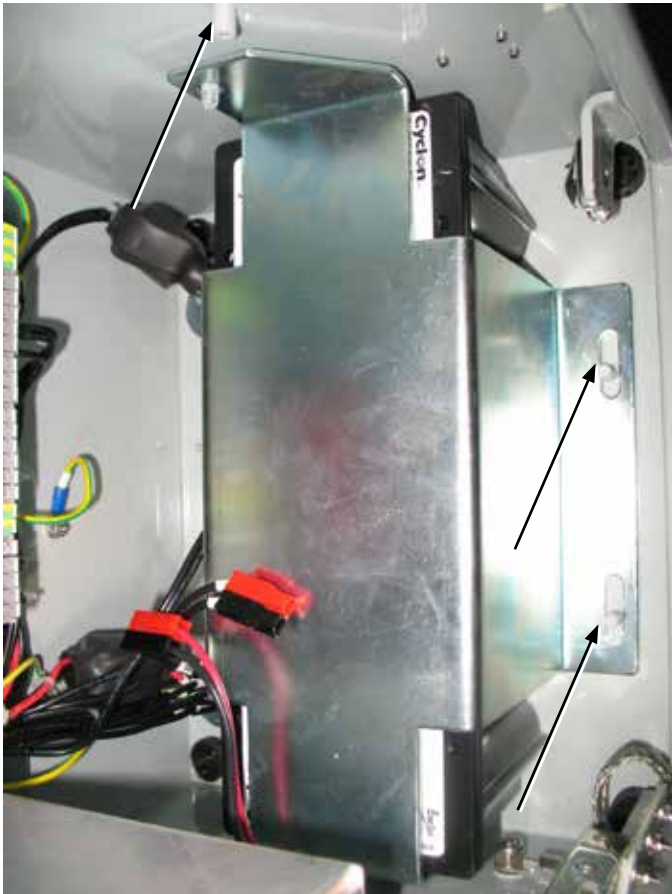

Figure 45.
8. Re-install the battery bracket (Figure 45).
9. Re-install and tighten the wing nuts. (Figure 45).